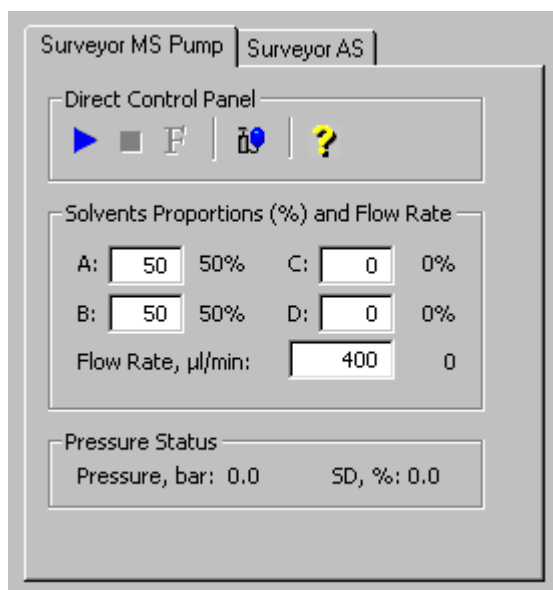

Figure 8-7. Inlet Direct Control view, showing pump Off
- a. On the Control / Scan Mode toolbar, click on the AS/LC Direct Control button to display the Inlet Direct Control view in the top right corner of the workspace. See Figure 8-7.